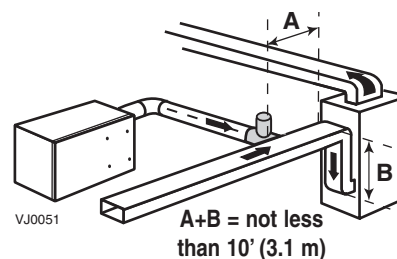

Figure 8
- Connect this opening to one end of the top section of a metal T coupling (the T will be reversed, see shaded part in Figure 8).
- Connect the other end of the T coupling top section to the fresh air distribution port of the HRV (see Figure 8).